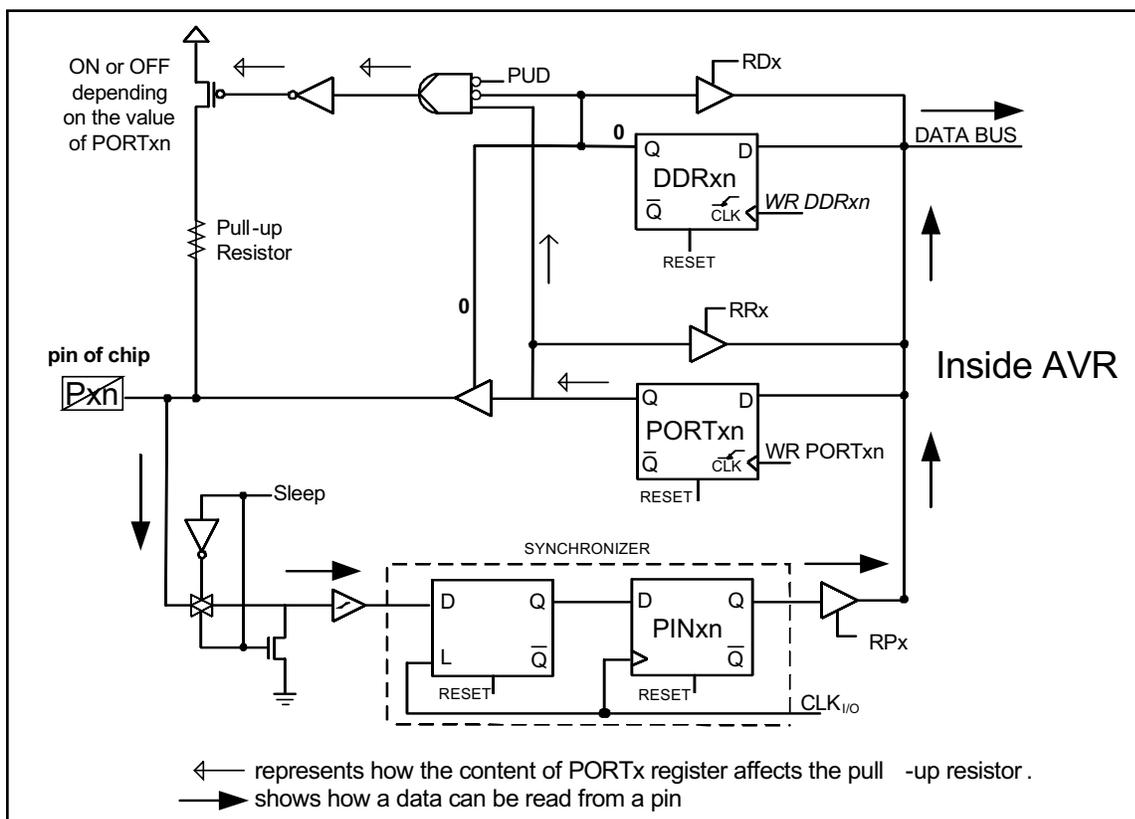

Figure C-11. Inputting (Reading) from a Pin via a $PINx$ Register in the AVR
1. As can be seen from Figure C-11, if we write 0 to the $DDRx.n$, it will have “LOW” on its Q. This turns off the tri-state buffer.
3. When reading the input port in instructions such as “`IN R16, PINB`” we are reading the data present at the pin. In other words, it is bringing into the CPU the status of the external pin. This instruction activates the read pin of the buffer and lets data at the pins flow into the CPU’s internal bus. Figure C-11 shows how the input circuit works.